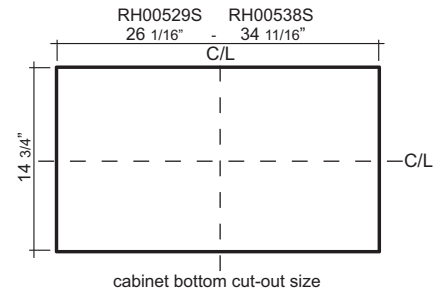

FIG 1
2. Install 8" round adapter to top of Power Pack using (4) M4 x 8 screws.
4. If no liner is used, cut out an opening in the bottom of the cabinet by following the dimensions in FIG 1.